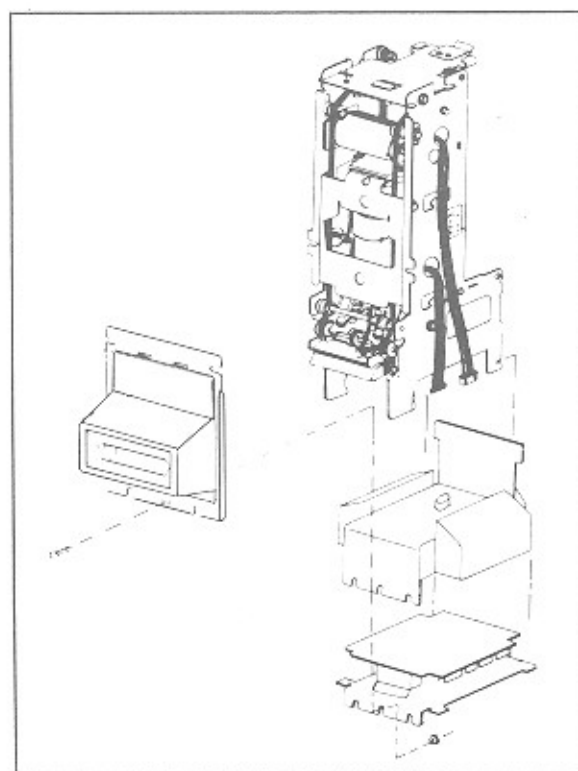

Figure 4-8. Removing The Bill Inlet
1. Remove the countersunk screw that holds the inlet on the front of the transport (see figure 4-8).